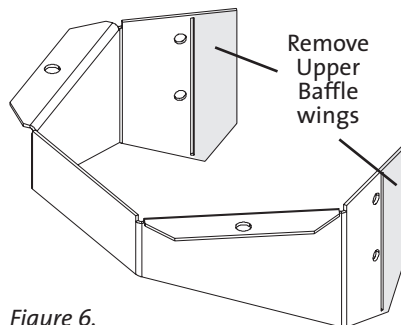

Figure 6.
- Loosen two 6 mm nuts on the Upper Baffle enough to break both end wings off at the perforations as in Fig. 6. Retighten the two nuts.